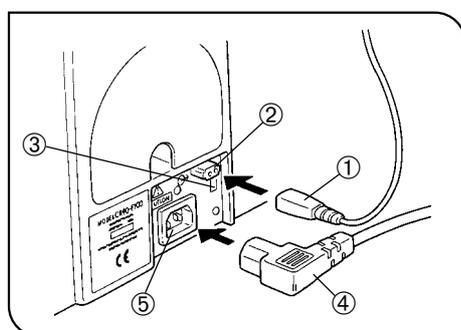

Fig. 15
## 10 Connecting the Lamp Cord Plug and Power Cord (Figs. 15 & 16)
▲ Make sure the main switch ① is set to “O” (OFF) before connecting the power cord. (Fig. 15)
1. Connect the lamp cord plug ① securely to the connector ② on the rear of the microscope body. (Fig. 15)
3. Insert the power cord plug ④ securely into the connector ⑤. (Fig. 15)